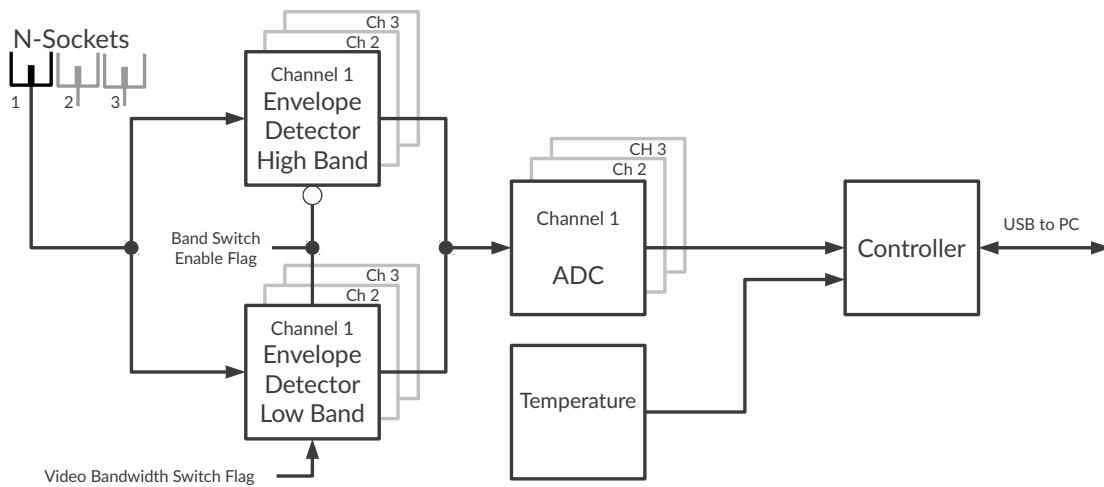

Figure 4: Power meter block diagram
Figure 4 shows the simplified block diagram of the power meter. Three 50 Ω N sockets feed the power signals to dedicated detectors. Each channel has got one dedicated low-band and one dedicated high-band logarithmic power detector, of which one is selectable at a time using a mode flag (see Table 1). The low-band stretches from 9 kHz to 400 MHz, the high-band from 30 MHz to 6(122) GHz.